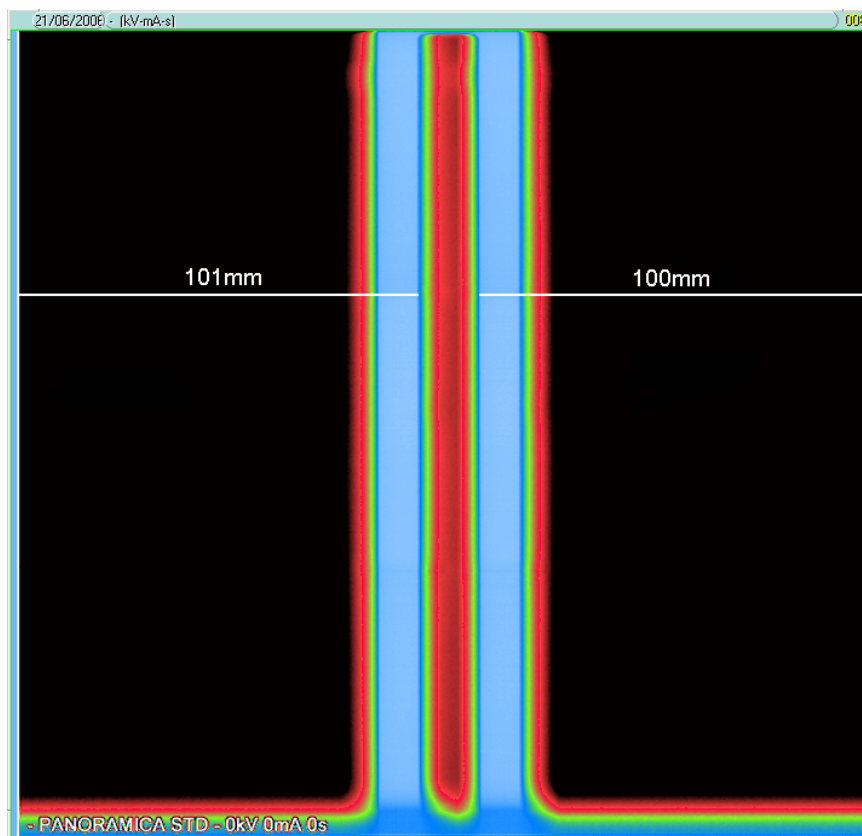

Figure 7-7
- 32.** On the image taken with QuickVision, using the instruction in paragraph 7.1.1, measure the distances between the borders of the image and the borders of the central vertical stripe (Figure 7-7); to take the measure easily, you can use the QuickVision pseudo color function.